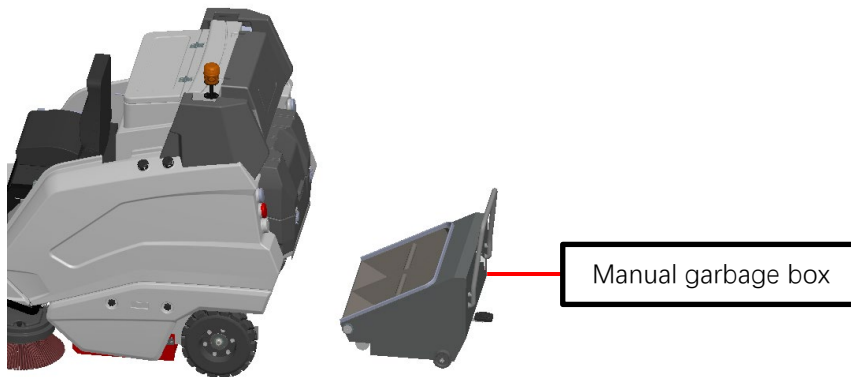

Fig. 21
2. Press the dust shaking switch or "Auto" button again to turn off the sweeper. Undo the buckle of the dustbin. Prevent the dustbin from sliding out. Move the dustbin to the dumping place. Lift the inner container and dump the garbage. As shown in the figure (Fig. 21).